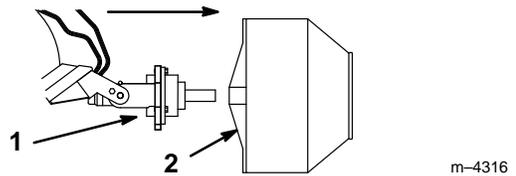

Figure 3
4. Maneuver the drive shaft into the collar on the back of the bowl (Fig. 3).